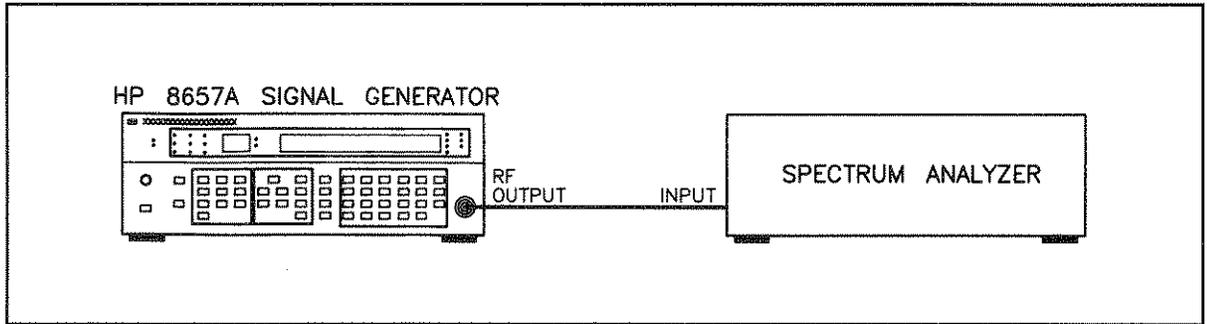

Figure 4-1. Spurious Signals Test Setup
3. Connect the RF OUTPUT of the Signal Generator to the input of the spectrum analyzer as shown in Figure 4-1. Verify that all harmonics are < -30 dBc, all non-harmonics 2 MHz from the carrier are < -60 dBc, all non-harmonics 5 KHz to 2 MHz from carrier are < -72 dBc, < -66 dBc, < -60 dBc for each frequency band shown in the table, and that there are no sub harmonics as the frequency is incremented from 100 kHz to 1040 MHz.